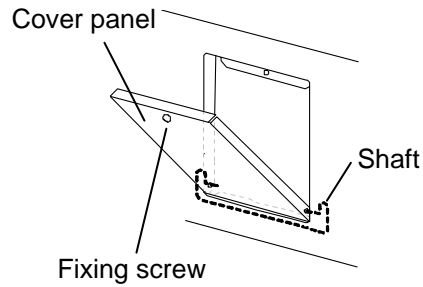

Fig. 5
1. Remove a cap for the fixing screw on the panel cover for mounting space of temperature recorder. Remove the fixing screw and open the panel cover. Remove the panel cover by pushing the shaft on both sides outward. (Fig. 5)